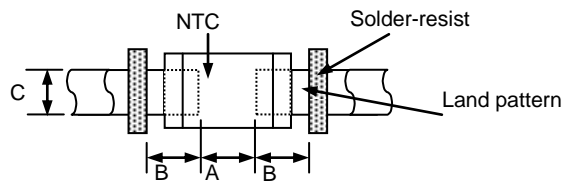

Fig. 2-2
- 2) Recommended PCB pattern for reflow soldering: See Fig.2-2 and Table 2-1.